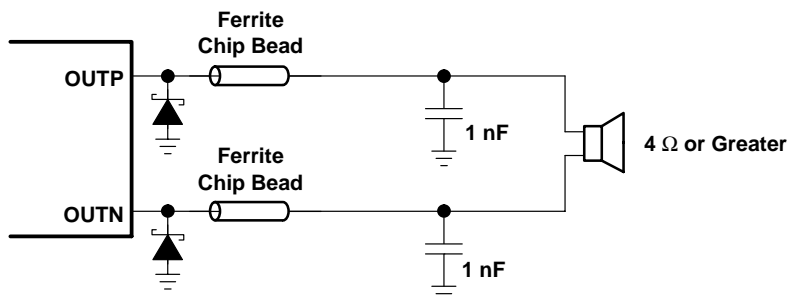
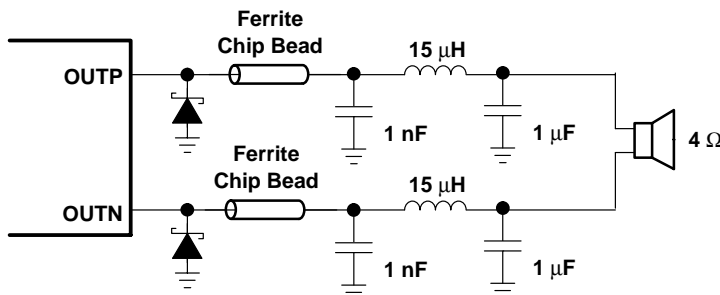
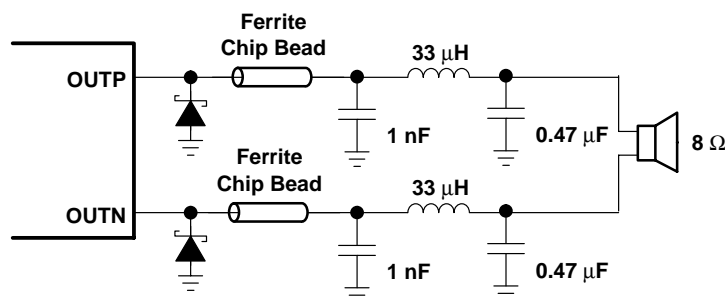

Figure 34. Typical Ferrite Chip Bead Filter (Chip bead example: Fair-Rite 2512067007Y3)
Figure 35. Typical LC Output Filter for 4-Ω Speaker, Cutoff Frequency of 41 kHz
Figure 36. Typical LC Output Filter for 8- Ω Speaker, Cutoff Frequency of 41 kHz
A ferrite bead filter (shown in Figure 34) should be used in order to pass FCC and/or CE radiated emissions specifications and if a frequency sensitive circuit operating higher than 1 MHz is nearby. The ferrite filter reduces EMI around 1 MHz and higher (FCC and CE only test radiated emissions greater than 30 MHz). When selecting a ferrite bead, choose one with high impedance at high frequencies, but very low impedance at low frequencies.
Use an additional LC output filter if there are low frequency (<1 MHz) EMI sensitive circuits and/or there are long wires (greater than 11 inches) from the amplifier to the speaker, as shown in Figure 35 and Figure 36.
- Output filter — The ferrite filter (Figure 34, page 14) should be placed as close to the output terminals (pins 10, 11, 14, and 15) as possible for the best EMI performance. The LC filter (Figure 34, page 14 and Figure 35, page 15) should be placed close to the ferrite filter. The capacitors used in both the ferrite and LC filters should be grounded to power ground.